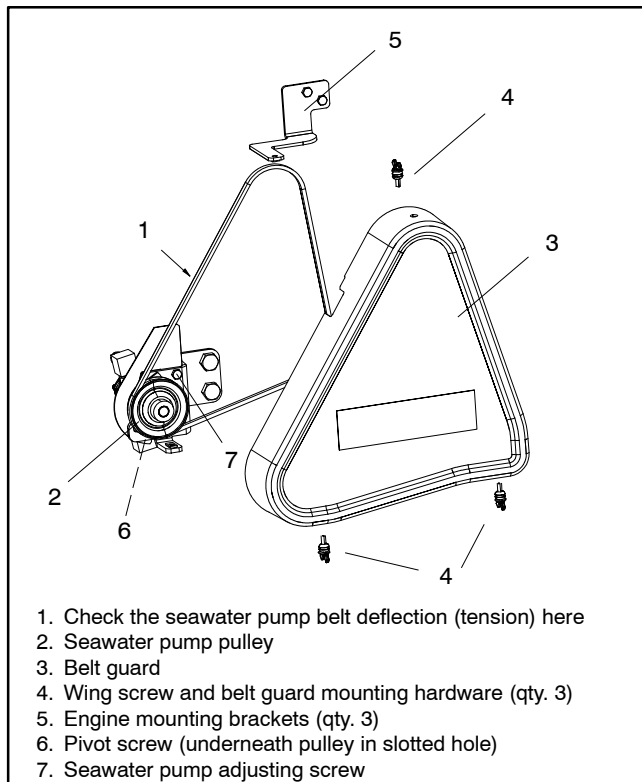

Figure 6-21 Seawater Belt Tension
4. Remove the belt guard. See Figure 6-21.